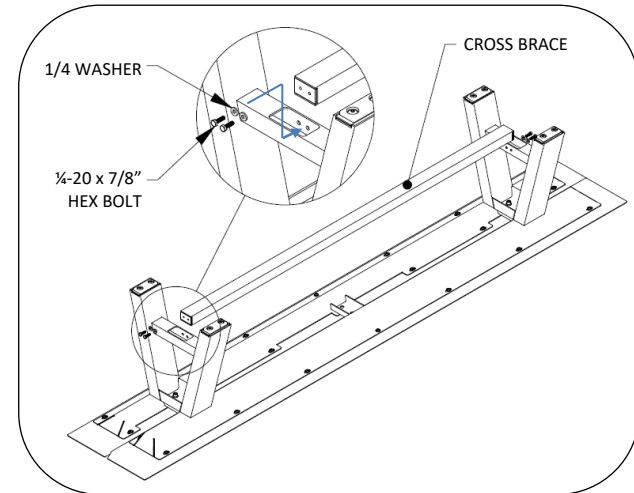

Fig. 2 – attach cross brace to supports
4. Install cross brace to supports using 1/4-20 hex head screws and washers, 2 per side, see Fig. 2.